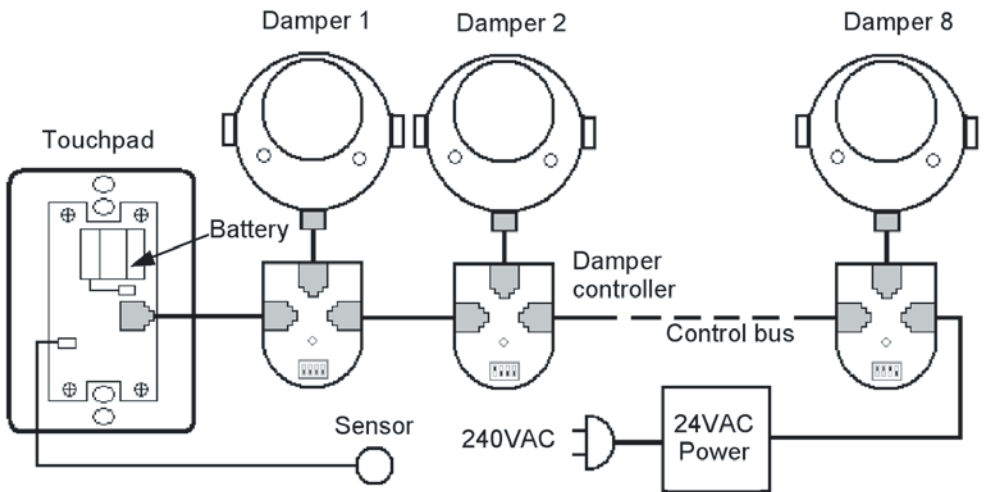

Figure 1. Wiring diagram 1
The cabling of the Zonemaster UniPoint is straightforward. One connection is to connect the touchpad, dampers and power supply in series via a control bus as shown on Figure 1.
- 8) Use another pre-tested cable to connect the touchpad with the first damper controller as shown in Figure 1 or in the middle of the control bus via a double adaptor as shown in Figure 2.